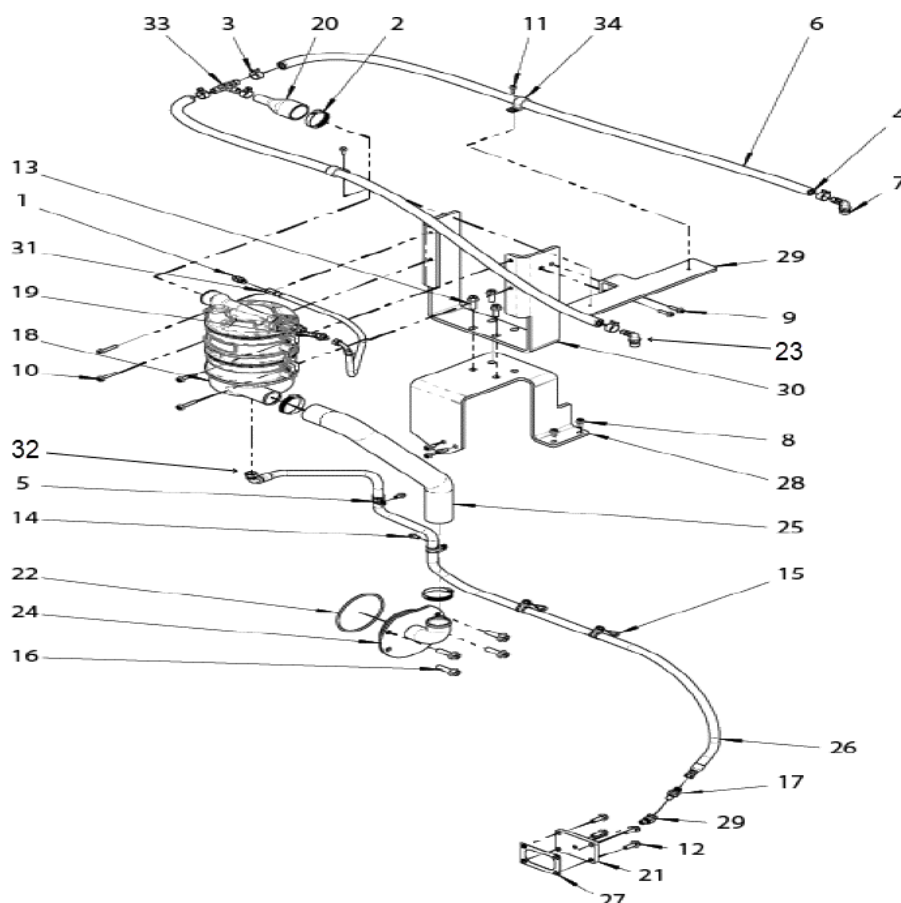

Figure 36. Crank Case Ventilation Assembly
1. Disconnect the oil drain hose (Figure 36, Item 26) from the oil drain fitting (Figure 36, Item 29).
2. Remove all bolts and clamps (Figure 36, Item 5 & 15) holding down the oil drain hose against the cylinder block.
3. Disconnect all hoses coming from the top and bottom of the CCV canister (Figure 36, Item 18).
4. Remove the four CCV canister bolts (Figure 36, Item 10).
5. Remove the CCV canister (Figure 36, Item 18).
1. Place the CCV canister (Figure 36, Item 18) onto the CCV bracket (Figure 36, Item 30).
2. Insert and torque down all four CCV canister bolts (Figure 36, Item 10) onto the CCV canister bracket (Figure 36, Item 30).
3. Reconnect all hoses coming from the top and bottom of the CCV canister (Figure 36, Item 18).
4. Secure the oil drain hose (Figure 36, Item 26) by clamping down the hose onto the cylinder block.
5. Connect the oil drain hose onto the oil drain fitting (Figure 36, Item 29).